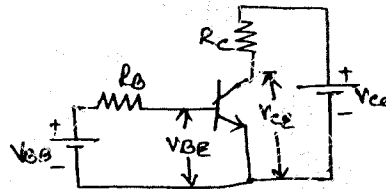

Fig.Q2(c)
- c. For a BJT circuit shown in Fig.Q2(c), if $V_{BE(sat)} = 1.5V$, $V_{CE(sat)} = 1.2V$, $\beta = 25$, $V_{CC} = 100V$, $R_C = 10 \Omega$ and $R_B = 20 \Omega$, find (i) the minimum value of V_{BB} required to ensure transistor saturation and (ii) the ON-state power loss P_T in the transistor. (05 Marks)